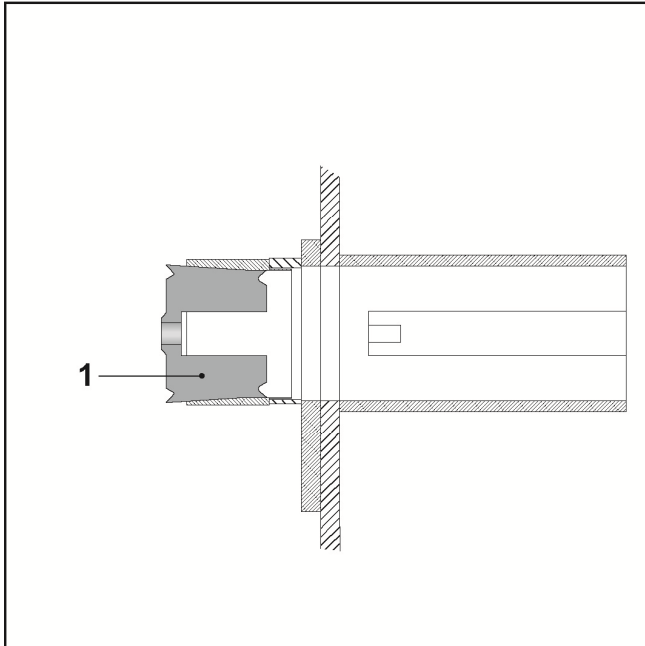

FIG.54
- Lubricate the piston (FIG. 54-REF. 1) with Vaseline, and slide the piston into the tapered part of the guide ring.